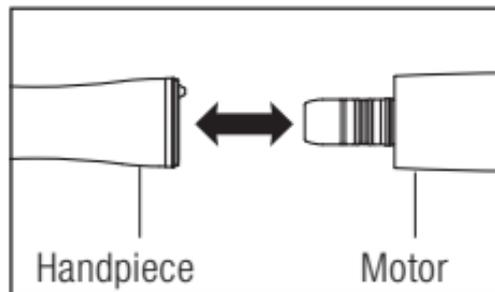

Fig. 1
- 1 Insert the handpiece directly into the motor (Fig. 1).
Hold the motor and the handpiece, then pull apart. (Fig. 1)